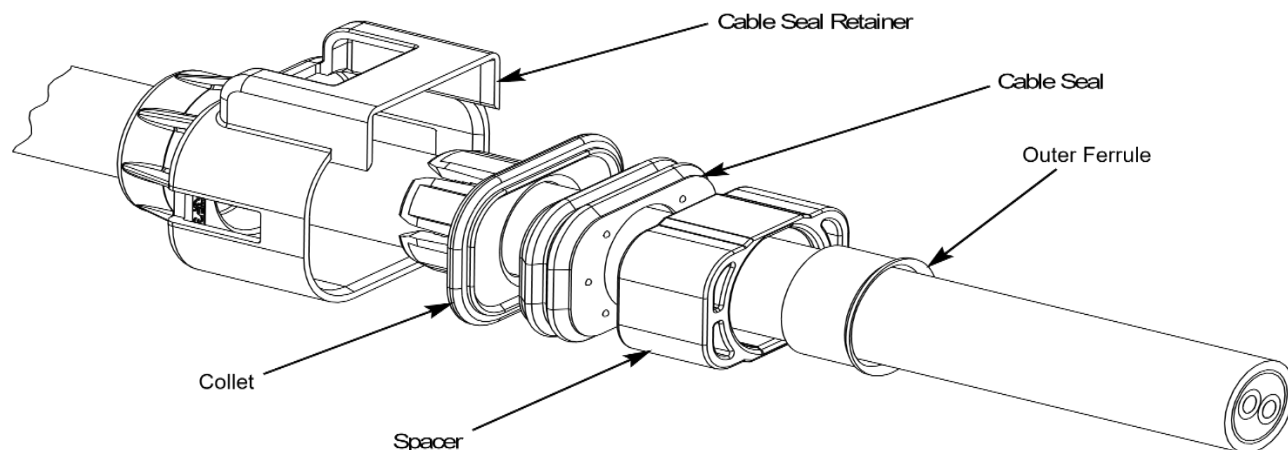

Figure 3
- 3.6.1.** In the orientation shown in Figure 3, slide the cable seal retainer onto the cable first, then the collet, cable seal, spacer, then finally outer ferrule